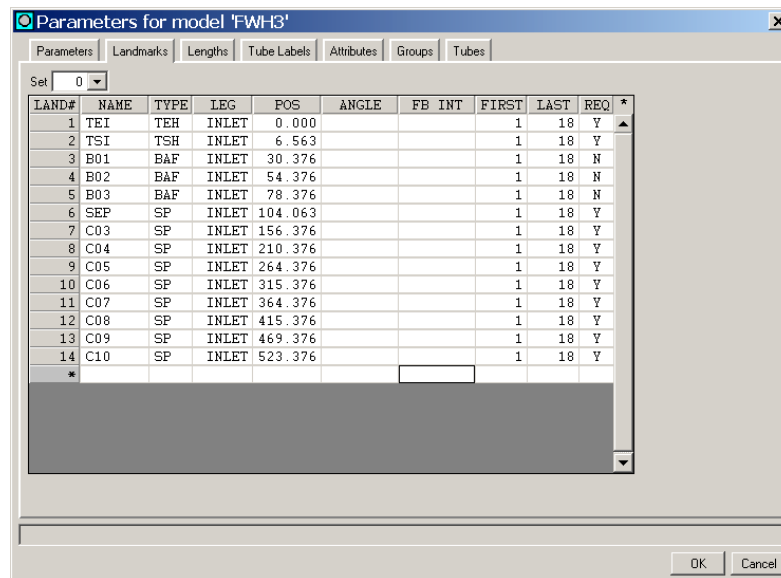

Figure 8-1. Parameters dialog - Landmarks Tab Showing Landmark Set 0
- STEP 13:** Continue entering the remaining landmarks for *Landmark Set 0* while referring to Table 8-1. When you have completed this step, continue to the next series of steps to enter the landmarks for *Landmark Set 1* (upper half). When you have finished, the *Landmarks* tab of the *Parameters* dialog should look like the one shown in Figure 8-1.